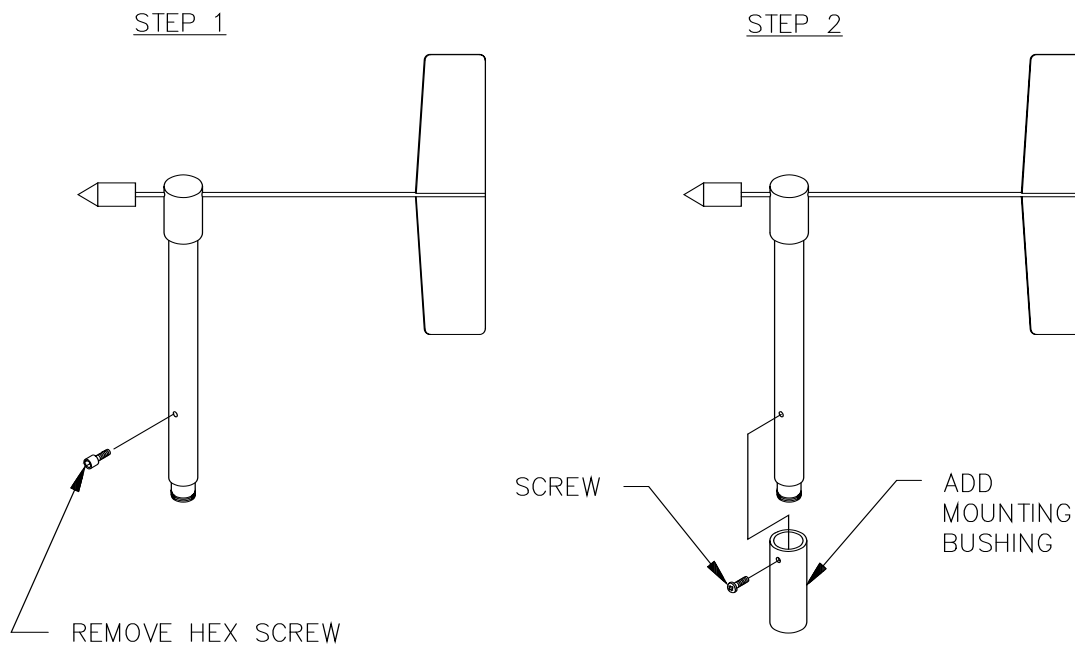

FIGURE 4-1. Bushing installation on 024A sensor
1. Remove the Allen hex screw in the lower part of the sensor housing (FIGURE 4-1).
2. Insert the 024A in the mounting bushing (FIGURE 4-1).
3. Tighten the mounting bushing screw onto the sensor housing (FIGURE 4-1).